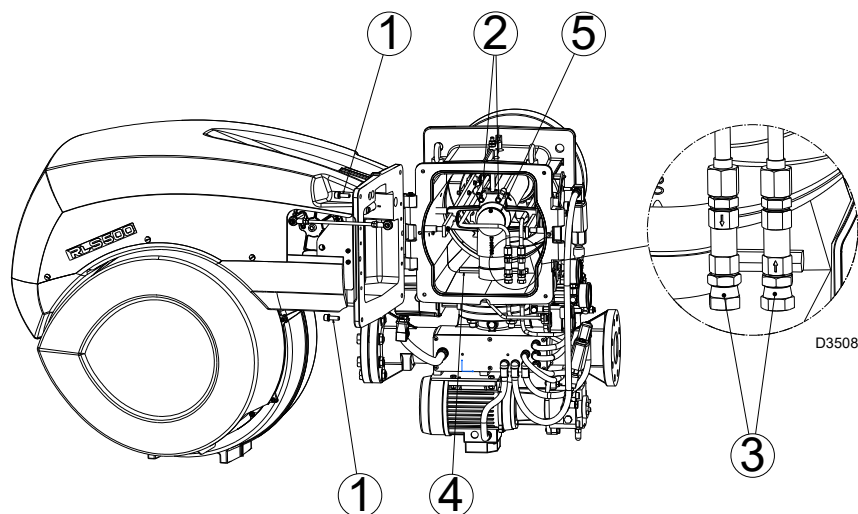

Fig. 13
RLS 300 - 400 - 500/EV FGR model (Fig. 13)
- open burner at hinge (Fig. 13) after removing the 4 screws 1);